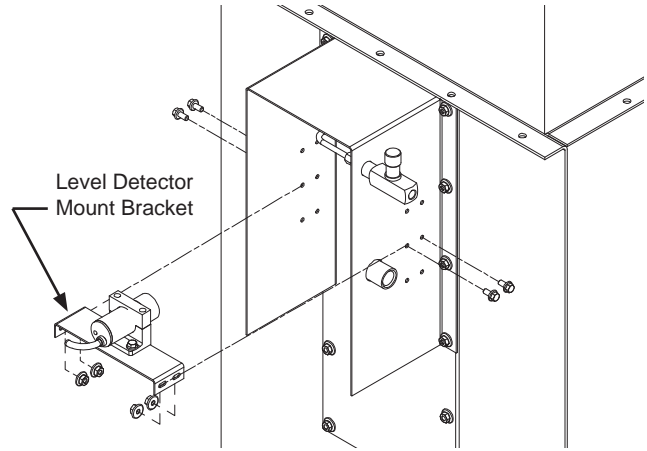

Figure 34 - Level Detector
Level Detector Vertical Position There are three (3) vertical positions the level detector can be adjusted to (see Figure 34). Remove mounting hardware and adjust to the preferred level. Maintain 1/16" clearance between the sensor and the window. Tighten hardware.